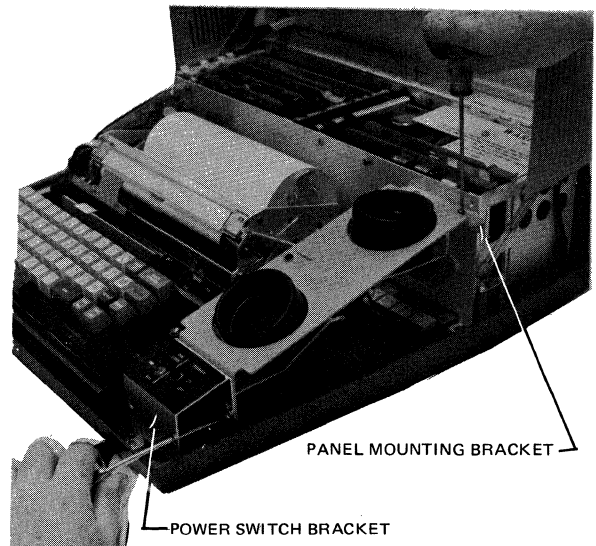

FIGURE 2-7.7. INSTALLING THE ACOUSTIC COUPLER PANEL
- (3) Insert a screwdriver through the front of the POWER switch box as shown in Figure 2-7.7 and tighten the two 6-32 screws at the front part of the Acoustic Coupler panel.